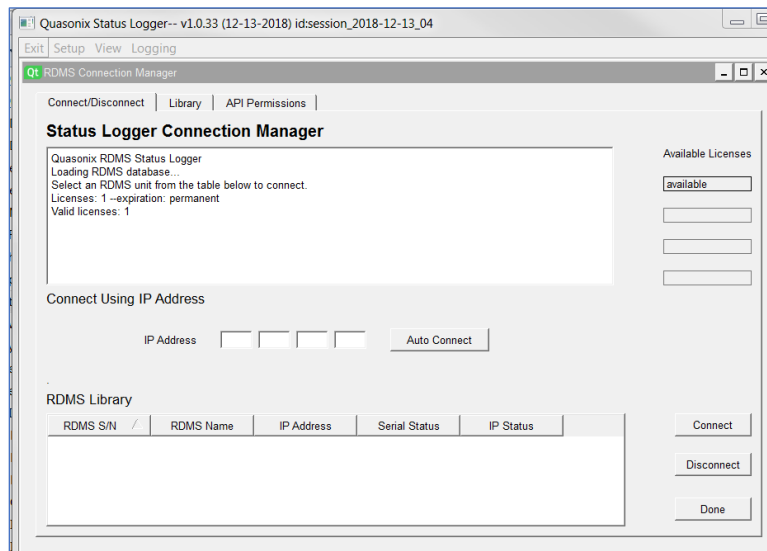

Figure 4: RDMS Connection Manager
7. The RDMS Connection Manager screen displays, as shown in Figure 4.